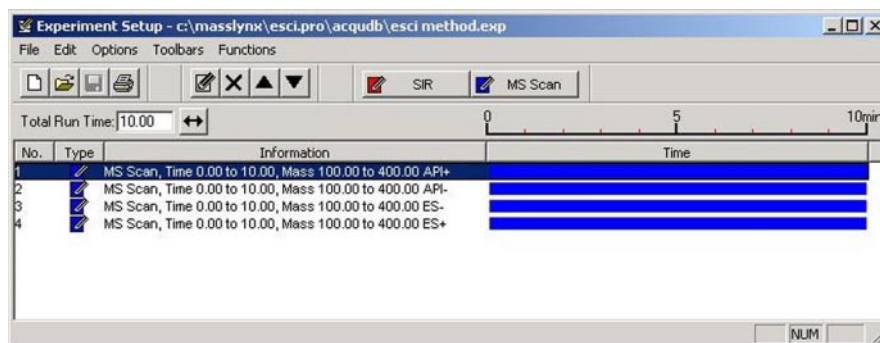

Figure A-11 Function List Editor Window Showing Specified Functions
**Note:** In the peak display, the APCI peaks appear in blue, the ESI peaks in red (Figure A-11).
Each time you click OK, the MassLynx Function List Editor window reappears listing the scan function you just specified (Figure A-11).